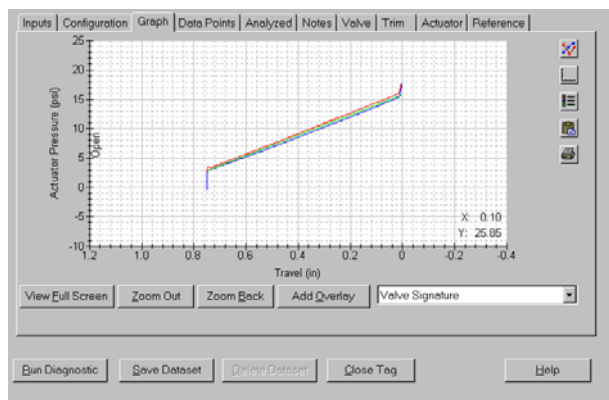

Figure 6. The Valve Signature Display
- Valve Signature (see figure 6)